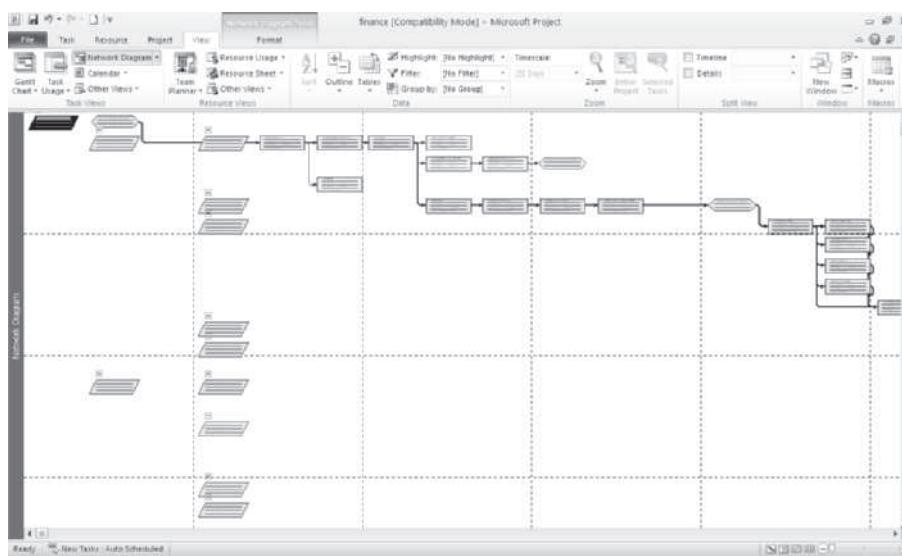

FIGURE A-9 Network Diagram view of finance file
2. Explore the Network Diagram view. Click the Network Diagram button ■ on the Ribbon, and then move the Zoom Slider ▶ ← → all the way to the left to see more of the diagram. Your screen should resemble Figure A-9.